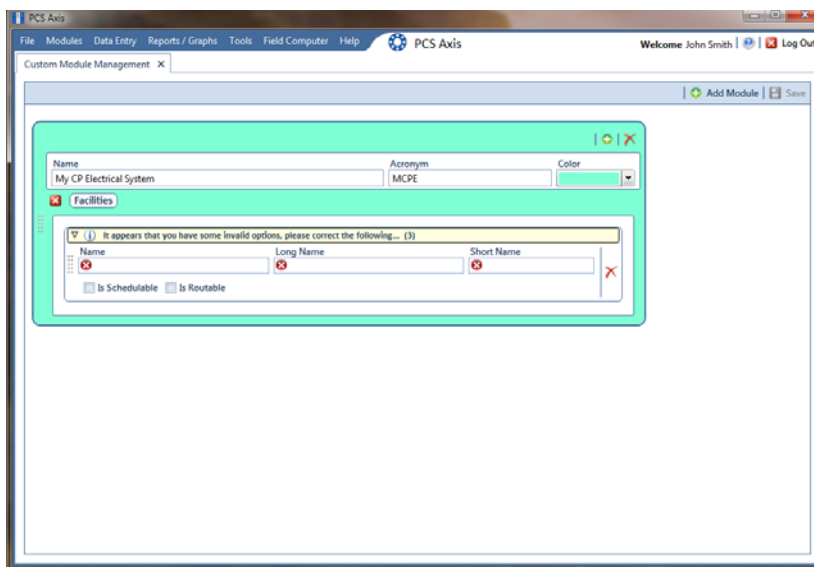

Figure 3-55. Custom Module Management
- 3 To set *Name*, *Acronym*, and *Color* properties for the user defined module, follow these steps (Figure 3-55):